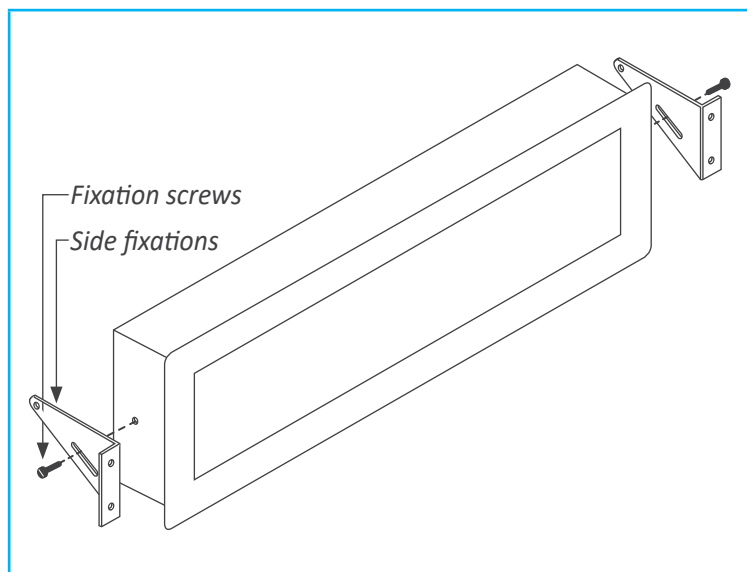

Figure 8 - Panel mount
- Panel mount. Apply the cut-out to the panel as seen on section 1.8. Remove the side fixations. Introduce the instrument into the panel cut-out. Mount the side fixations as shown (see Figure 8). Slightly loosen the fixation screw of one side and press the instrument against the panel. Tighten the fixation screw so it presses the panel and maintains the fixation. Repeat with the opposite side fixation.